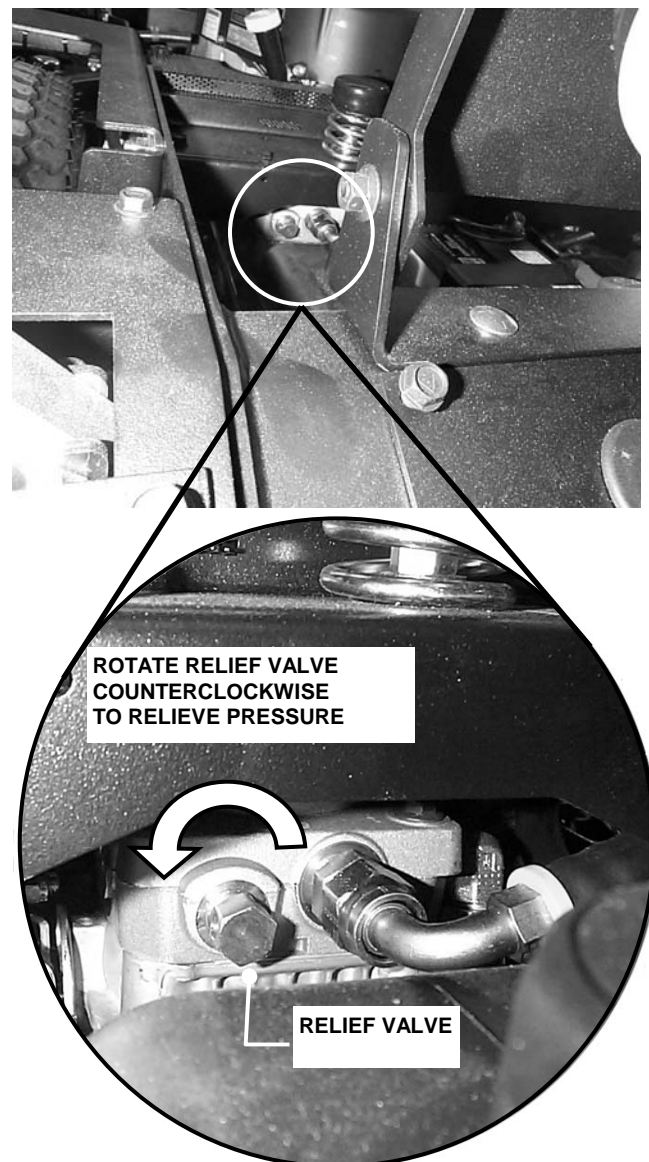

FIGURE 4
B. Open pressure relief valve on hydraulic pump, turning counter clockwise 2 full turns. See Figure 4.